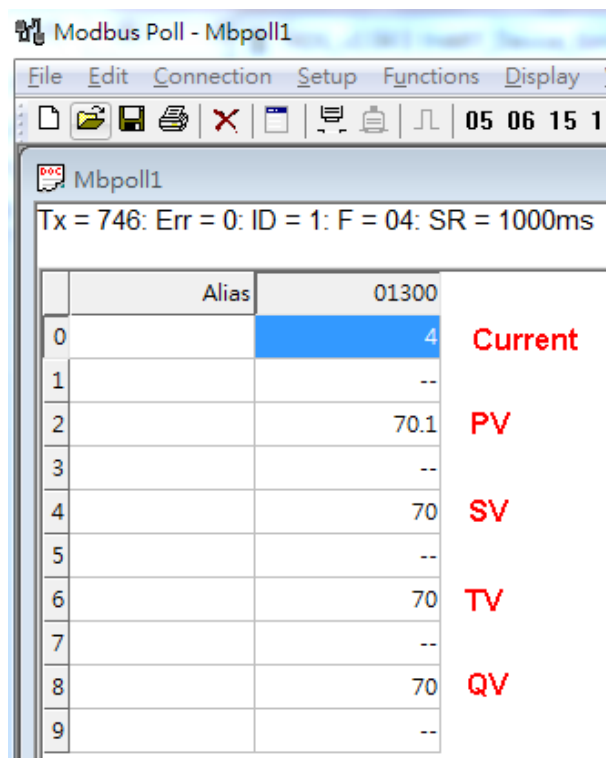

Figure 3-13 : The CMD(3) data of HART device (MB Address : 1300 ~ 1309)
<9> The CMD(3) data of HART device is shown (Figure 3-13).